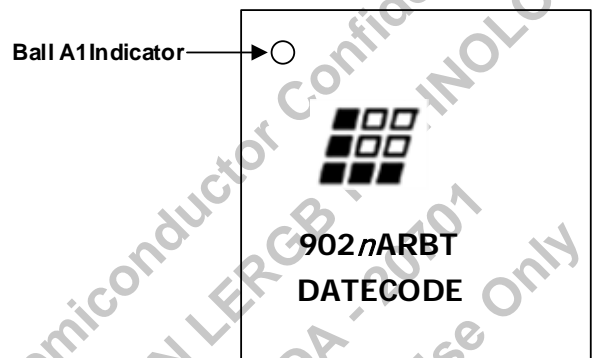

Figure 8.5. Alternate Topside Marking (SiI902nARBT)
- Figure 8.5. Alternate Topside Marking \(Sil902nARBT\) added